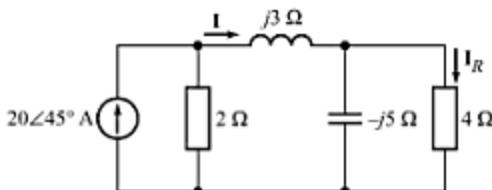

Fig. C-57
- C-87. Use current division twice to find the current  $\mathbf{I}_L$  for the circuit shown in Fig. C-57.